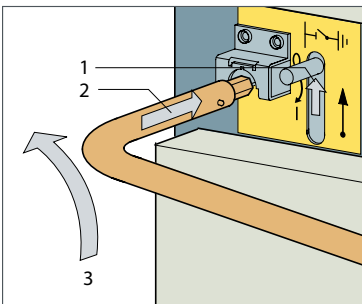
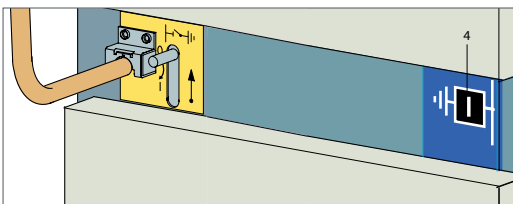

Fig. 10.35
Fig. 10.36
- Push the slide (Fig. 10.35, 1) upwards and insert the control lever of the earthing switch with the lever rod pointing to the right (2).
- Press the lever counterclockwise by approx. 95° (3).
- Check position indicator: It must indicate that the earthing switch is OFF (Fig. 10.36, 4). Remove crank.